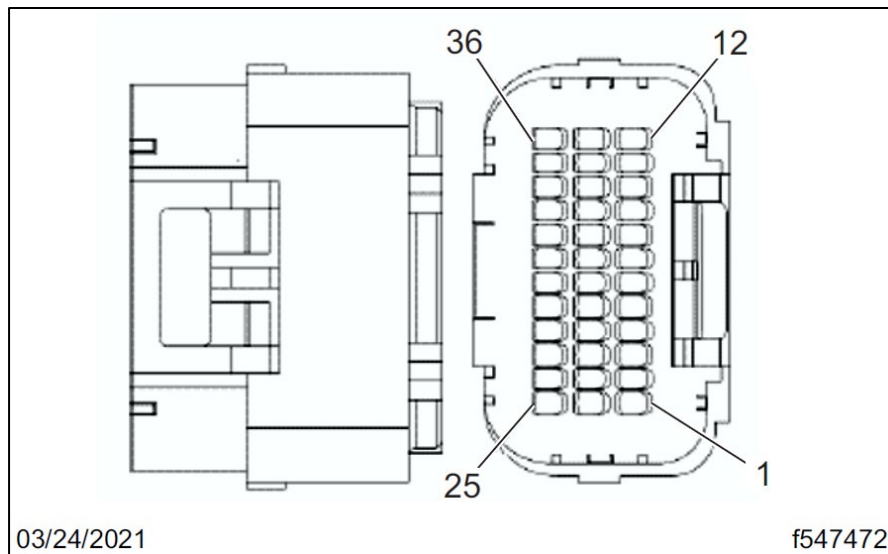

Fig. 5, ENG_CTRL_D_ECU_CMNS_EDGE_1A Connector Pin Configuration
12. Inspect for correct pinning at cavities 6 and 7. See Fig. 5.